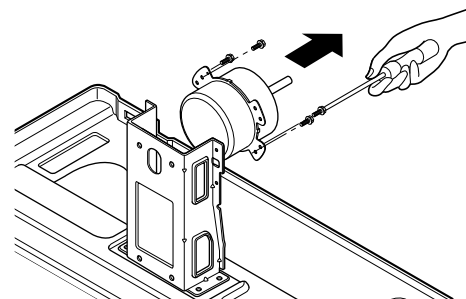

Figure 14
3. Remove the 2 screws which fasten the motor. (See Figure 14)